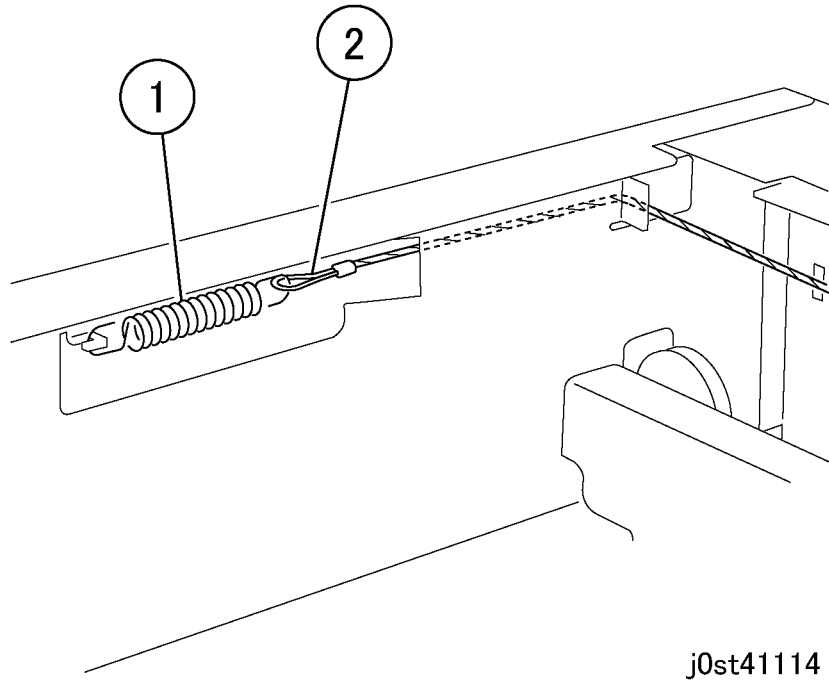

Figure 4 Removing the spring (j0st41114)
5. Remove the Carriage Cable. (Figure 4)